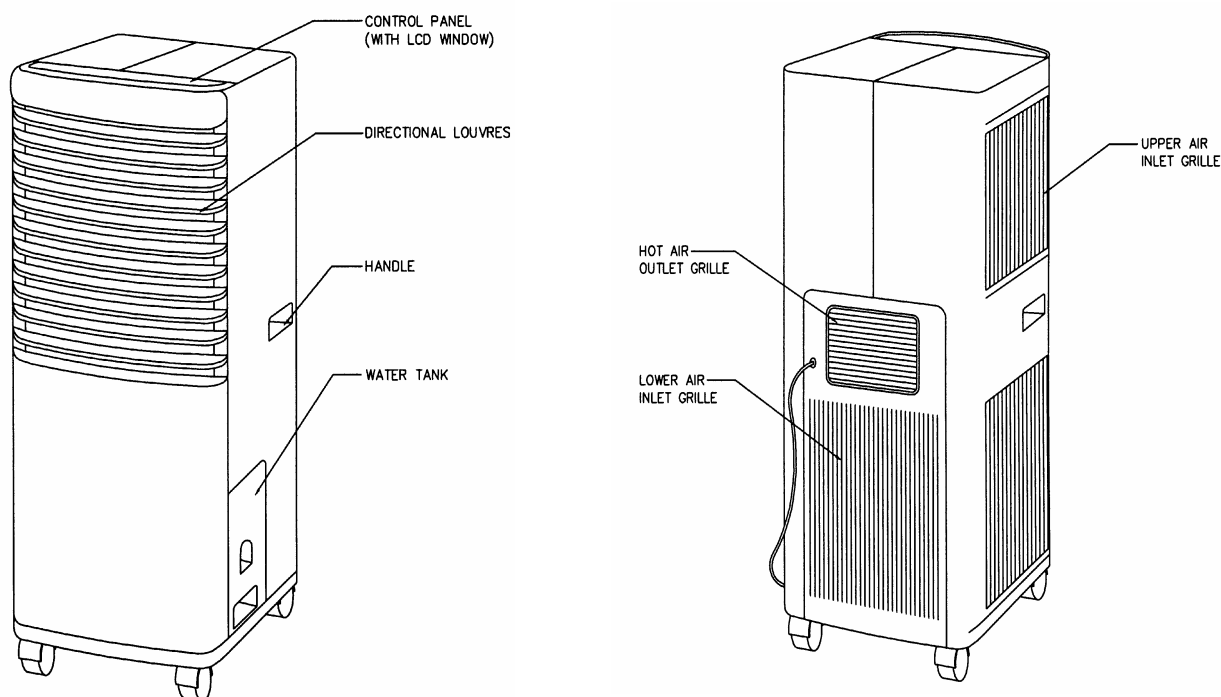

Fig 3
- 2) Fit the Exhaust air duct to the "Hot air outlet grille" (Fig 3) located on the rear of the unit. Run the duct out through a window/door (see diagram opposite) making sure that it is held in place. This will allow the unit to exhaust the warm air from inside the room, whilst at the same time letting fresh air enter. It is important to make sure the ducting has as few bends in as possible, and that the radius of any bends be kept as wide as the installation will allow. This will help maximise the unit's effectiveness.
- ◆ Open the "Upper air inlet grille" Cover (Fig 3) by pulling out the handle and lifting the cover upwards. Then remove the air filter from the cover.